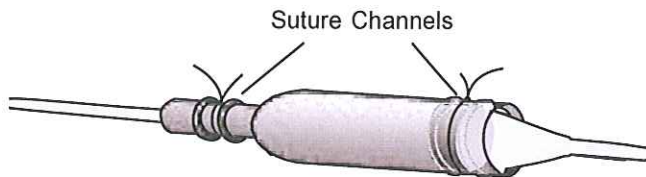

Figure 30: Suture lead/lead cap.
7. Place non-absorbable sutures around both ends of the connector boot in the suture channels (Figure 30).